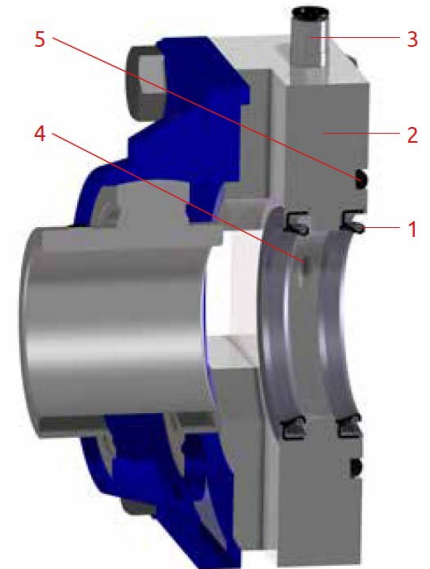

Figure 1
We mount the seal housing against the end plate of the screw conveyor, see Figure 1. We mount both oil seals (1) with the sealing lips on the same side in the seal housing (2). This means in this illustration that the air can only flow to the left, in the direction of the screw conveyor, and not to the right. An O-ring (5) ensures a tight seal with the end plate.